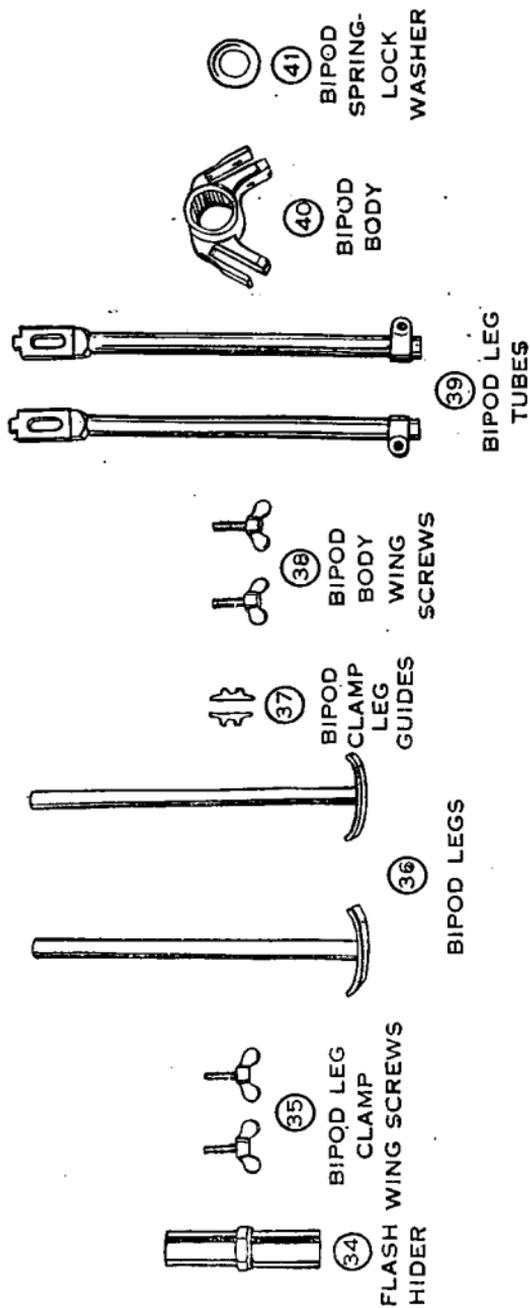

FIGURE 4.—Bipod group.
(3) *Bipod group* (fig. 4).—The disassembling of the bipod group generally is not performed as a part of mechanical training. However, it may become necessary to disassemble this group to replace damaged or broken parts, and the following procedure is prescribed: Unscrew the flash hider (34). Remove the bipod assembly. Unscrew the two bipod leg clamp wing screws (35). Remove right and left bipod legs (36). Remove the two bipod clamp leg guides (37). Unscrew the two bipod body wing screws (38). Remove right and left bipod leg tubes (39) from bipod body (40). Remove bipod spring-lock washer (41).
a. *Bipod group* (fig. 4).—Replace bipod spring-lock washer (41). Replace the right and left bipod leg tubes (39) on the bipod body (40). Screw the two bipod wing screws (38) into the bipod body. Replace the two bipod clamp leg guides (37) in their slots on the right and left bipod legs. Replace bipod legs (36) in the bipod leg tubes (39). Aline U-shaped opening of the bipod clamp leg guides with the holes in the bipod leg clamps, and replace the bipod leg clamp wing screws (35). Replace bipod assembly on the rifle. Screw flash hider (34) on to the rifle.